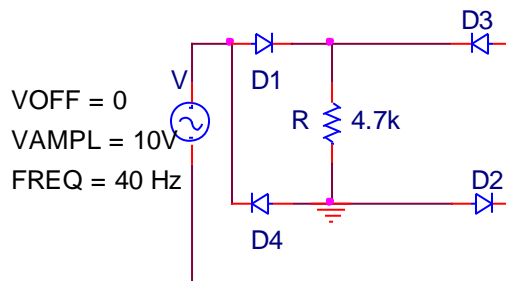

Fig. 7 Bridge rectifier circuit
1. Assemble the circuit in Fig 7 using chip shown above. The Function generator (FG) should have an amplitude and frequency shown in Fig. 7 and applied to the two terminals denoted by tilde (~). Observe the output and verify that the output has a peak  $V_p - 2V_D$ . Don't try to observe input and output simultaneously on the oscilloscope as this creates a grounding loop and thus introduces error.